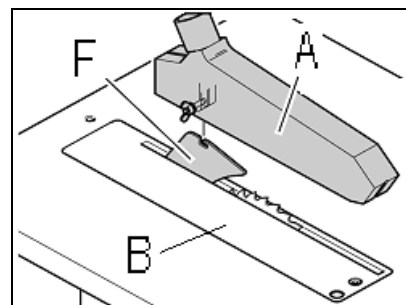

Fig 16
Attach the saw guard (A, Fig 16) to the raving knife (F) with 1 carriage bolt, washer and wing nut